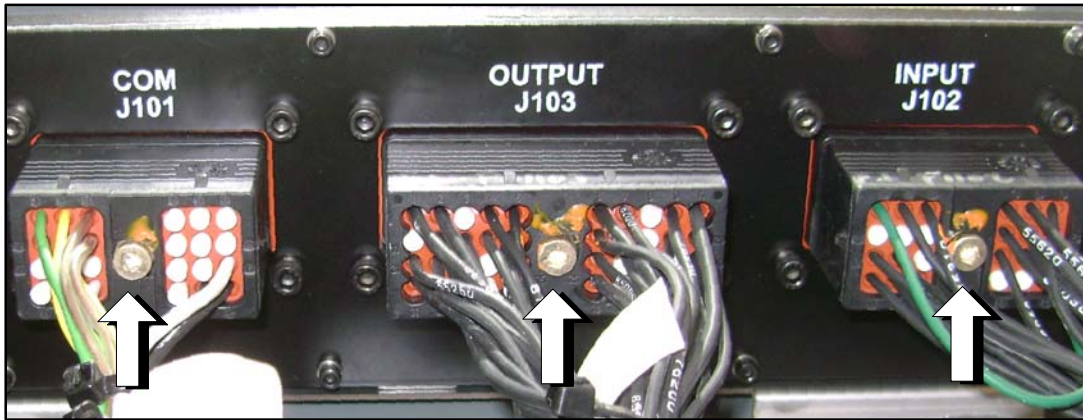

Figure 5.
11. Orient and connect connectors PMM J101, J103 and J102. Using a 4 mm or 5/32 hex wrench, torque the connector bolts to 25 in–lbs (refer to Figure 5).